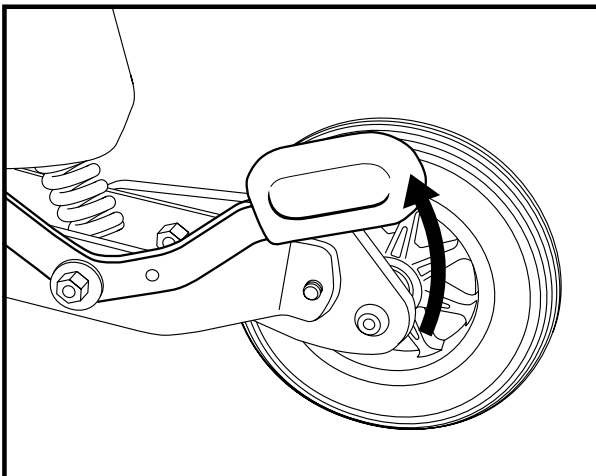

Figure 10. Drive Mode (left side shown)
2. Push down both manual freewheel levers for drive mode (drive motor engaged). See figure 10.